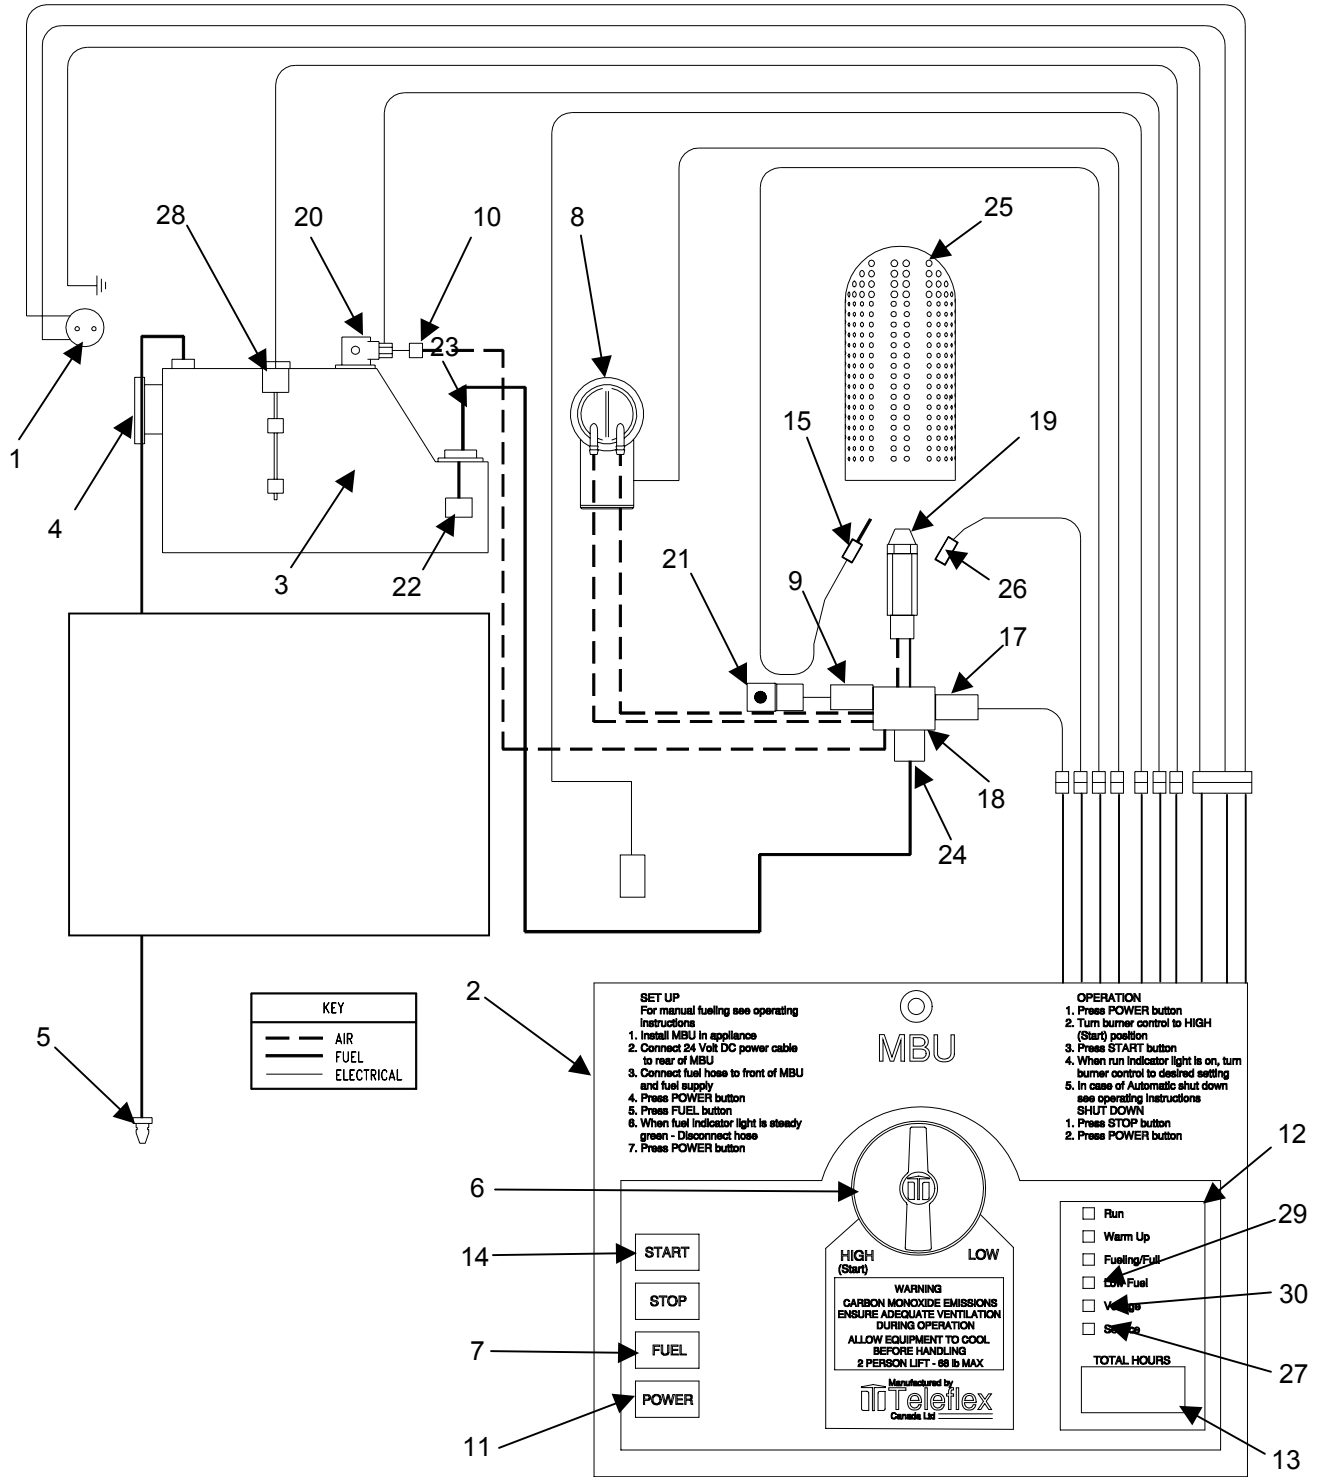

Figure 1. MBU Operational Schematic
With burner control (**figure 1, item 6**) in HIGH (START) position, MBU startup is initiated by pressing the START button (**figure 1, item 14**), which energizes the ignitor (**figure 1, item 15**). After two seconds the compressor (**figure 1, item 8**) starts, and the fuel valve (**figure 1, item 17**) on the fuel delivery block assembly (**figure 1, item 18**) opens, allowing fuel to flow to the nozzle (**figure 1, item 19**). The vent valve (**figure 1, item 20**) on the fuel tank (**figure 1, item 3**) opens, allowing air to enter the fuel tank. The compressor (**figure 1, item 8**) draws air through the air filter (**figure 1, item 21**), on the fuel delivery block assembly (**figure 1, item 18**), pressurizing the fuel nozzle (**figure 1, item 19**). Simultaneously, fuel is drawn from the fuel tank (**figure 1, item 3**), through a 30-micron filter (**figure 1, item 22**) and a zero pressure regulator (**figure 1, item 23**) to the burner control valve (**figure 1, item 24**), which regulates the flow to the nozzle (**figure 1, item 19**). This fuel-air mixture is sprayed into the burner (**figure 1, item 25**) in a fine mist and ignited. The ignitor circuit remains energized for 30 seconds.
Adjust the burner control (**figure 1, item 6**), as necessary.
- Loss of combustion. If the flame sensor (**figure 1, item 26**) fails to verify combustion, the MBU shuts down immediately and the red SERVICE indicator (**figure 1, item 27**) lights.
- Low fuel. When the fuel tank level float switch (**figure 1, item 28**) reaches a minimum set point, a 30 minute shutdown timer is activated. Control Panel indicators will light as follows: LOW FUEL indicator (**figure 1, item 29**) blinks green for 15 minutes, changes to blinking amber for 7.5 minutes, and then changes to blinking red for 7.5 minutes. The indicator (**figure 1, item 29**) lights steady red at shutdown.
- Voltage. If input voltage increases to 29.5 V DC or greater or decreases to 22 V DC or less, the MBU will shut down and the VOLTAGE indicator (**figure 1, item 30**) will light red.
- Electrical Short. An internal circuit breaker is located in the controller (**figure 1, item 2**). The nominal rating of the breaker is 15 amps dependant on ambient temperature. Once the breaker has tripped; it can be reset by turning the power off and eliminating the cause of the short circuit. It will then reset itself in 30 - 60 seconds dependant on ambient temperature. As breakers are typically thermal devices, the point at which they open and close is dependent on the temperature of the internal components. The breaker is connected in series with the POWER Button.